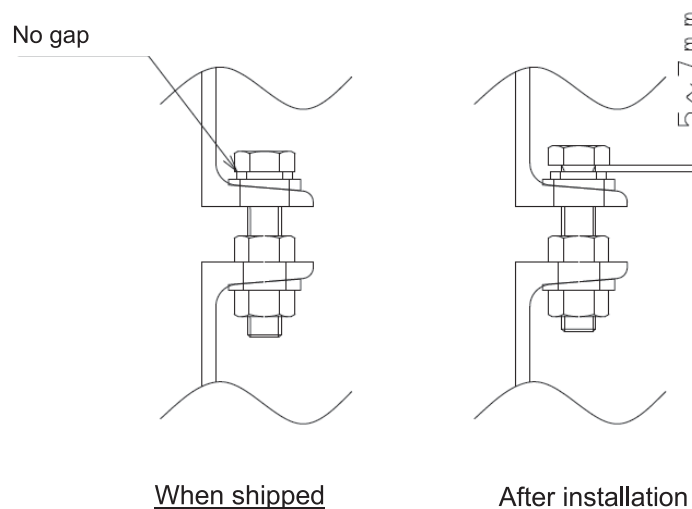

Figure 8 – Stopper bolt adjustment
- (2) The product is shipped with the stopper bolts tightened as shown in Fig. 8_ "When shipped." After installation of the product at the delivery site, be sure to fix the stopper bolts in the position shown in Fig. 8_ "After installation."
If the fan is operated with the stopper bolts locked (see Figure 8), the expected vibration-proof effect cannot be obtained.